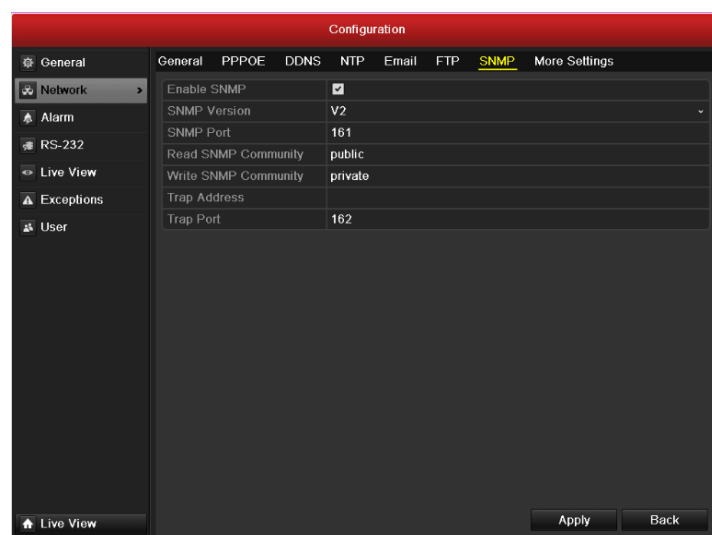

Figure 9.12 Configure SNMP Settings
- Select the **SNMP** tab to enter the SNMP Settings interface, as shown in Figure 9.12.